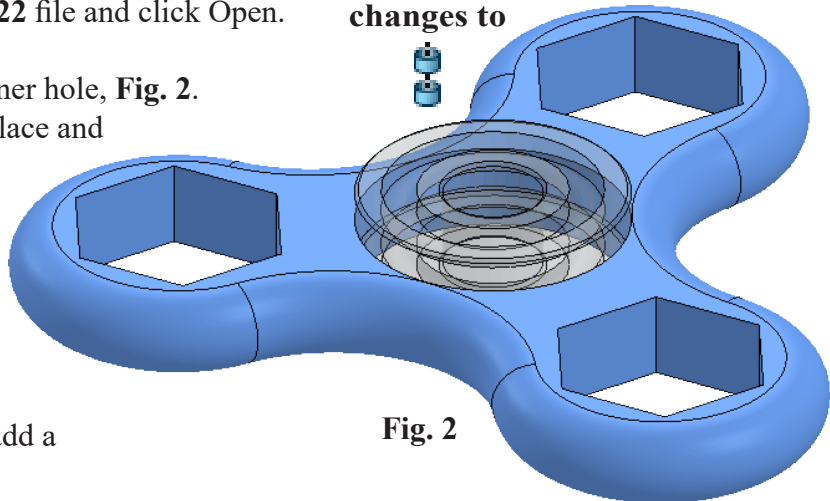

Fig. 2
Step 7. Position Bearing near Spinner hole, **Fig. 2**.